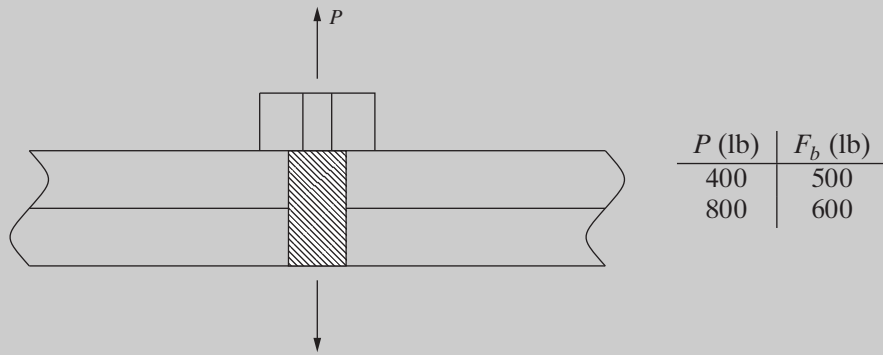

Figure 1.10 External force applied to a bolted connection.
In a bolted connection shown in Fig. 1.10, the force in the bolt F_b is related to the external load P as
- Determine the joint constant C and the preload F_i given the data in Fig. 1.10.